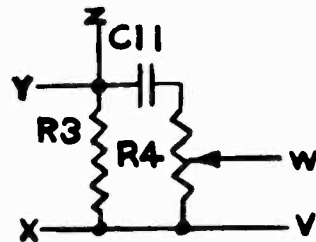

Fig. 3. 2.0 Megohm Volume Control Circuit
* Refer to Production Changes for circuits with 12A8GT tube and 2.0 megohm volume control. Lettered points indicate break-points for insertion of circuits shown in Figs. 3 and 4.
Similarly there will be found receivers of Model H-500U, H-510U and H-520U which have a 2.0 megohm volume control circuit (see Fig. 3). If such is the case insert the 2.0 megohm volume control circuit shown in the schematic diagram (Figs. 5 and 6). When ordering replacement parts for the 2.0 megohm volume control circuit be sure to refer to the special replacement parts list.
* Refer to Production Changes for circuits with 2.0 megohm volume control. Lettered points indicate break-points for insertion of circuit shown in Fig. 3.